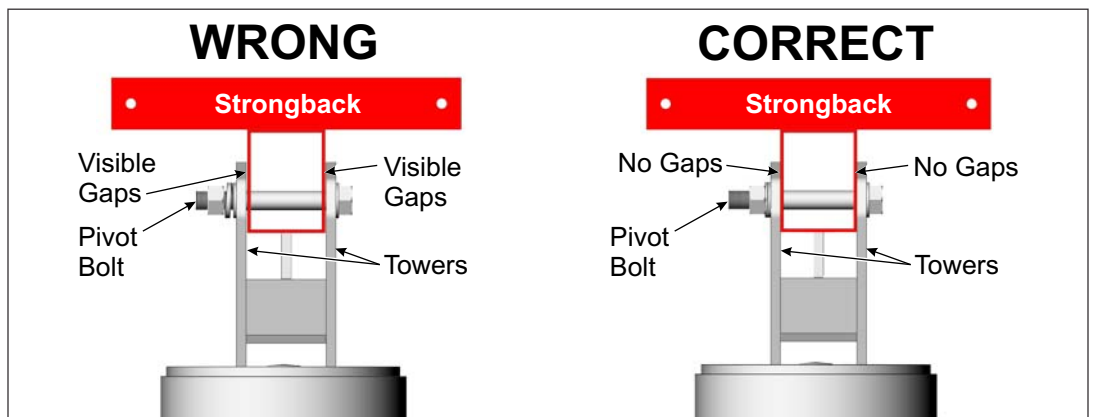

Figure 2-4: Tighten and Torque the Pivot Bolt
- G. Return and tighten the Pivot Bolt. The Pivot Bolt cannot be left loose - the Mounting Sleeve Vertical Towers must be firmly clamped to the sides of the Strongback eliminating any gaps between the Vertical Towers and the Strongback. **Torque to 330-350 ft.-lbs.** (See Figure 2-4)